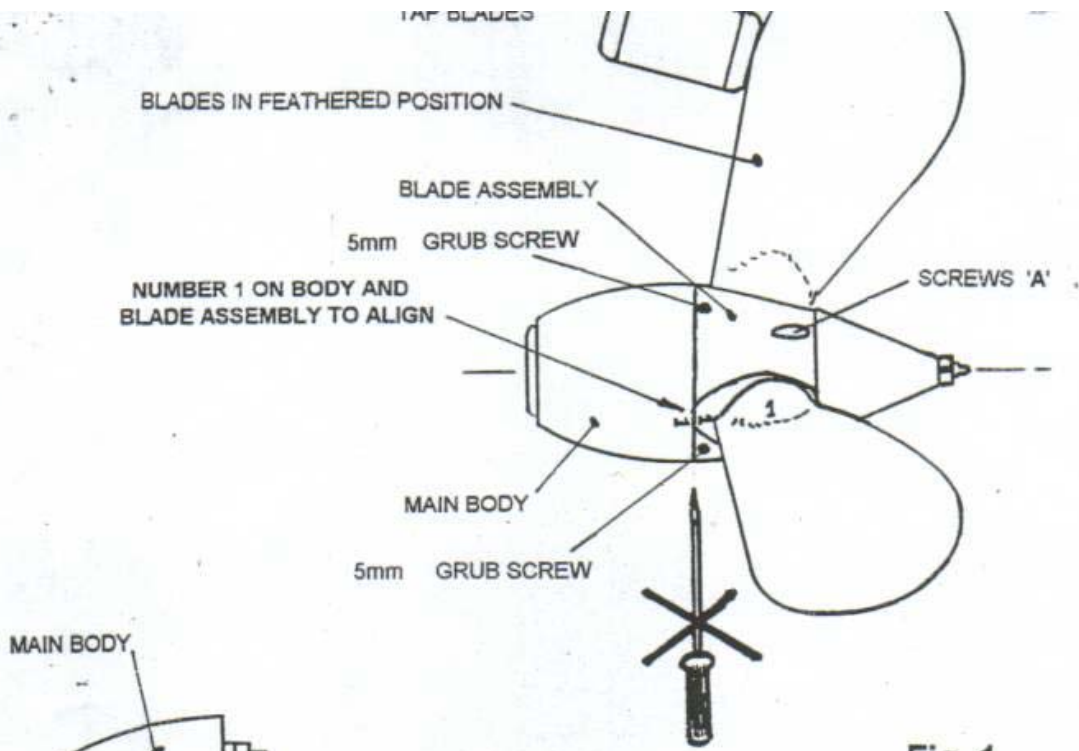
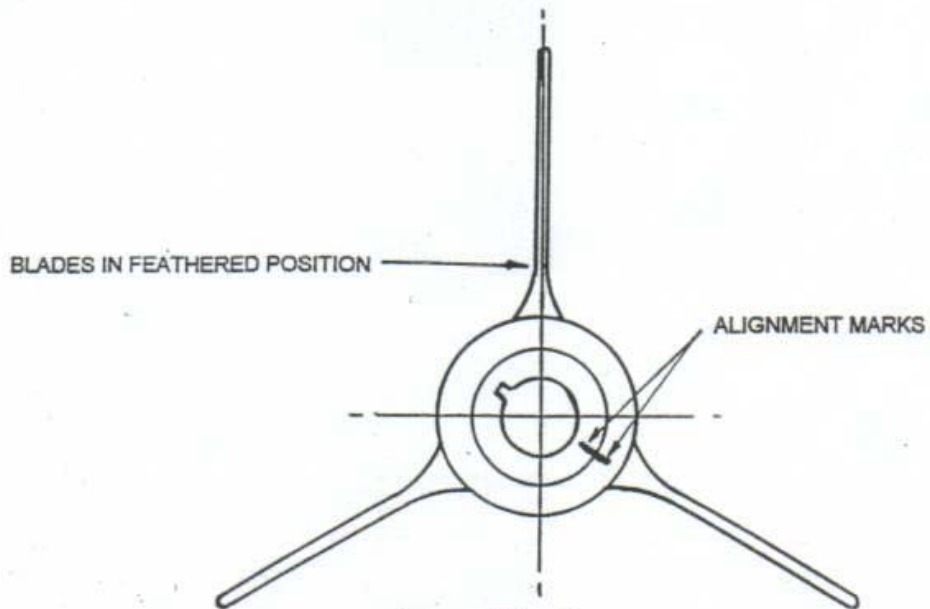

Fig. 1
Fig. 3
1. Undo 3 screws 'A' **only** using the 5mm hex key supplied. Position blades in the feathered position. Grasp the main body and with a soft face hammer tap the leading edge of the blades to remove the blade assembly. See fig 1.
1. Undo 3 screws 'A' **ONLY** using 5mm hex key supplied. Position blades in feathered position. Grasp the main body and with a soft-faced hammer gently tap the leading edge of the blades to remove the blade assembly. **DO NOT** lever with a screwdriver or similar in the joint face as this may damage the faces. See figure 1.
7. Align marks on the main gear and propeller body. See figure 3.
9. With all blades in feathered position (as in fig 3) **carefully** fit the blade assembly to the main body with No.1 blade aligned with the No.1 on the main body, as in fig 1.
10. Check that alignment marks (fig 3) are still aligned when the blades are feathered.
15. To remove the anode, undo the locknut at the grease nipple and slide the anode off. **NOTE** It is not necessary to dismantle the blade assembly (fig 1) unless replacing the blade bearings.
To replace blade bearings:- Remove the tail cone anode and 3-12mm grub screws using the 6mm hex key supplied. Then remove the 3 cap screws underneath. Position blades in the feathered position (as in fig 1) remove end cap leaving blades behind. When re-assembling clean screws and threaded holes of old loctite and re apply loctite as supplied. Tighten screws to 9.5Nm (7ft/lbs) torque. Blade bearings bores are numbered on all parts and must correspond.